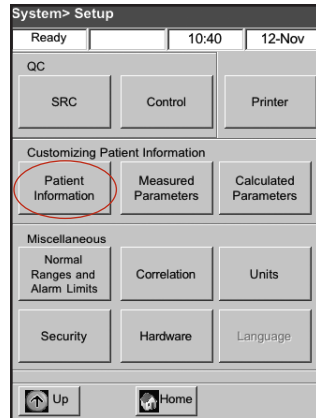

Figure H-6: System > Setup screen
3. From the Setup screen, tap **Patient Information** (Figure H-6).